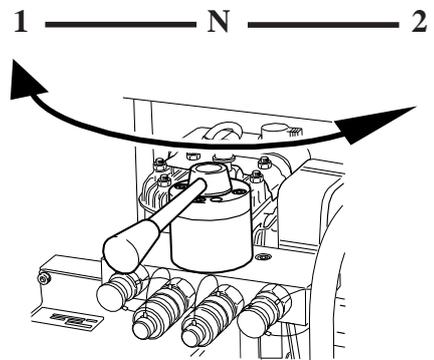
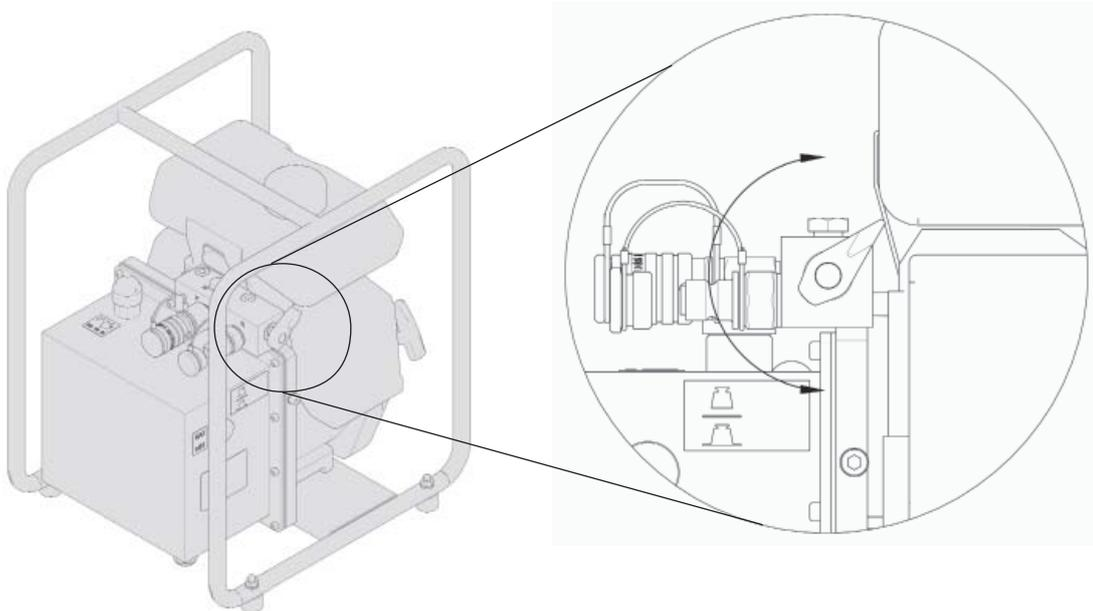

Fig 6
Fig. 7
1. PMP1211: Turn the control valve counterclockwise to the open position (Fig. 7).
PMP1221: Turn the control valve to each end setting and then back to the central position (Fig. 6).
PMP1221: Turn the control valve to the centre position (Fig. 6).
4. PMP1221: Turn the control valve to each end setting and then back to the centre position (Fig. 6).
Operating the pump (PMP1221 Fig. 6, PMP1211 Fig.7)